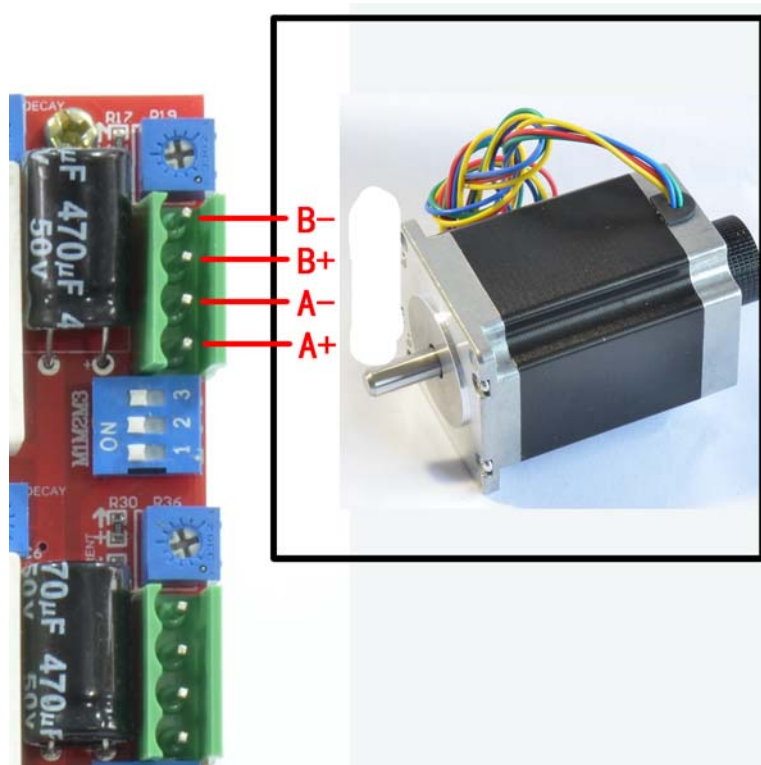

Figure2-3. Wiring with stepper motor
- F) These four green 4P port are XYZA 4axis stepper motor port. Each port's definition is A+ A- B+ B- from down to up. Wiring method see as figure 2-3.